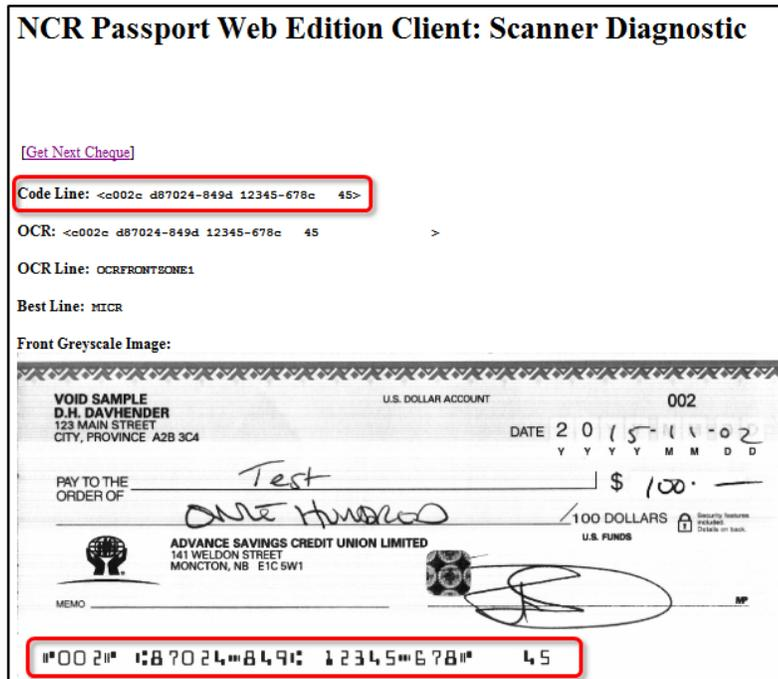

Figure 8: Captured MICR
- Verify that the **Code Line**: MICR information read by the system matches the cheques MICR. See Figure 8.